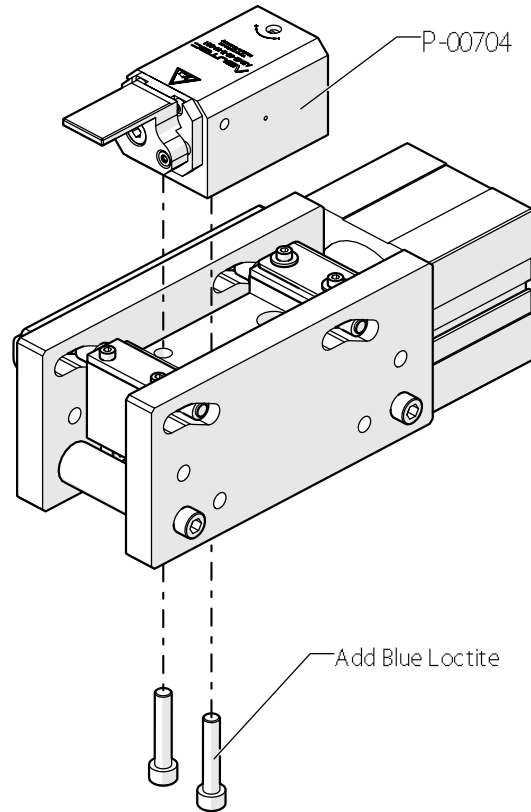

Figure 35: Removing P-00704
Step 2: Remove P-00704 as shown in Figure 35.